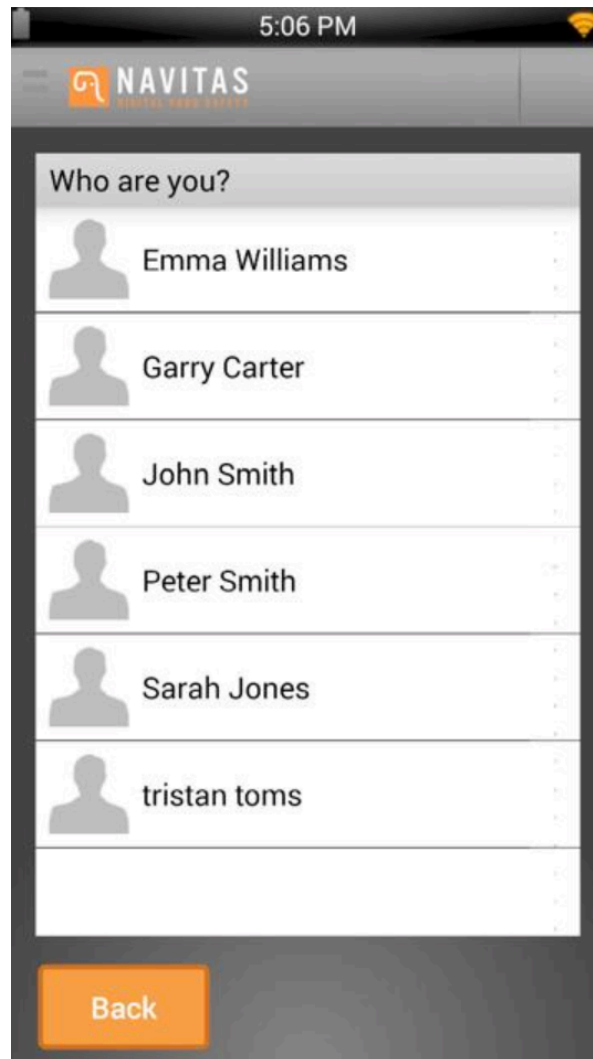

Fig. 19 – Staff selection screen.
2. Select the staff member (see Fig. 19).